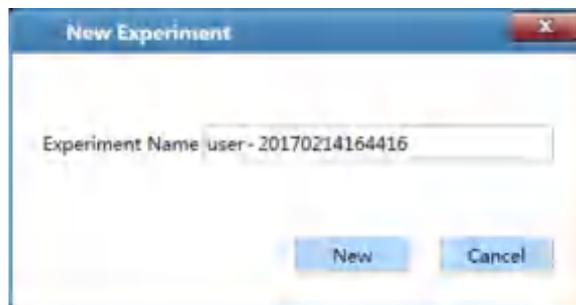

Figure D-1.1c Quick start bar - New Experiment
- Click < **New Experiment** > and the application software will automatically pop up the new experiment dialog box, as shown in figure D-1.1c. User can manually enter a name in the **Experiment Name** input box and click < **New** > to create a new experiment file.